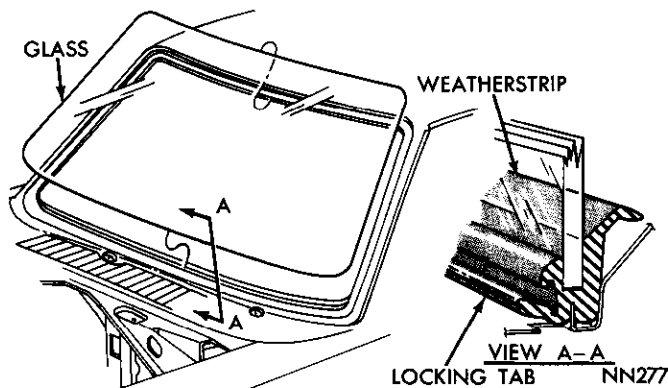

Fig. 3—Windshield Installation
- (2) Apply sealer in fence and glass groove portions of weatherstrip.
- (3) Apply a 3/8 inch bead of sealer cement completely across cowl top panel lower windshield frame area (Fig. 3).
- (4) Position weatherstrip lower section to tab area,